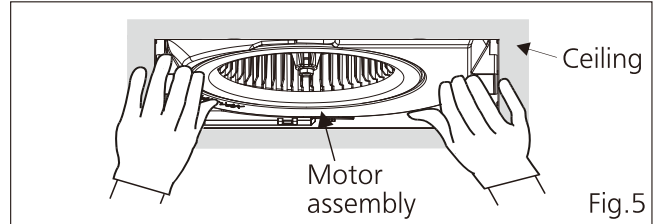

Fig.5
7. Insert the motor assembly (in FV-0510VSB1 packing case) into housing can. (Fig.5)